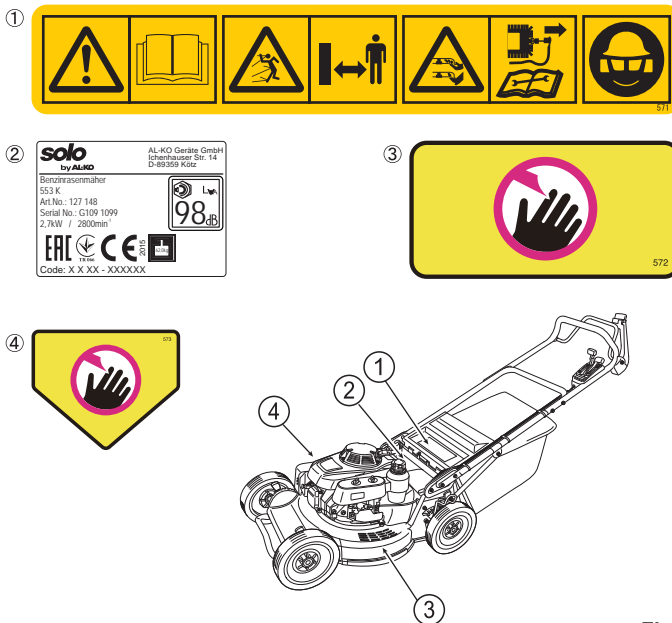

Fig. 1
- Safety labels are affixed on the lawn mower as shown in **Fig. 1**.